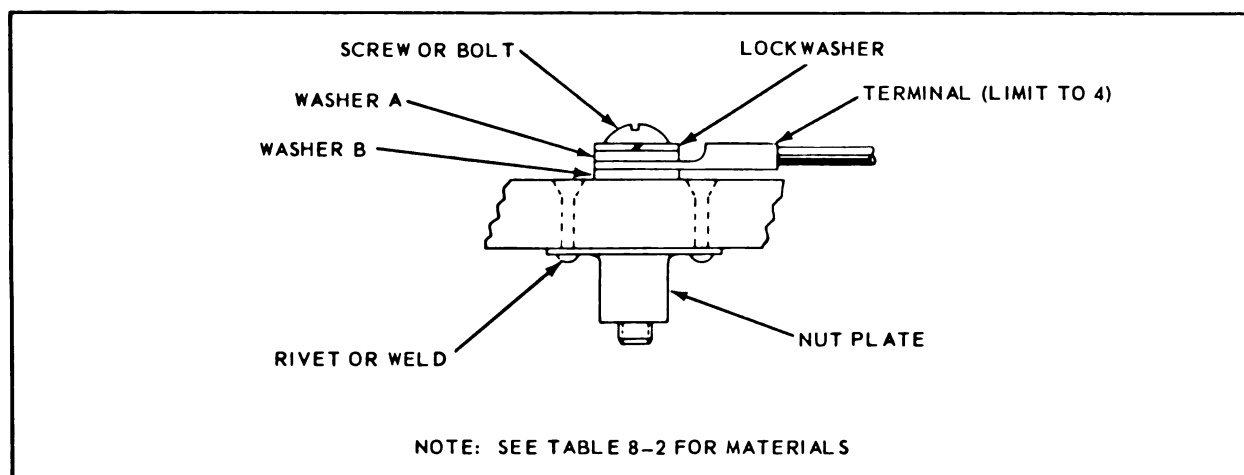

Figure 8-2. Plate Nut Bonding or Grounding to Flat Surface
(Refer to Figure 8-2)
b. Nut plate and bolt connection: (See figure 8-2 and table 8-2) Nut plates are used where access to the nut for repairs may be difficult. Nut plates are riveted or welded to a clean area of the structure. Cleaning of structure is done in accordance with 8-14 through 8-16 as applicable.
When terminal is under head of screw or bolt (as shown in figure 8-2), it is preferable not to install more than one terminal. A loose screw with two terminals may cause inadvertent operation of equipment.